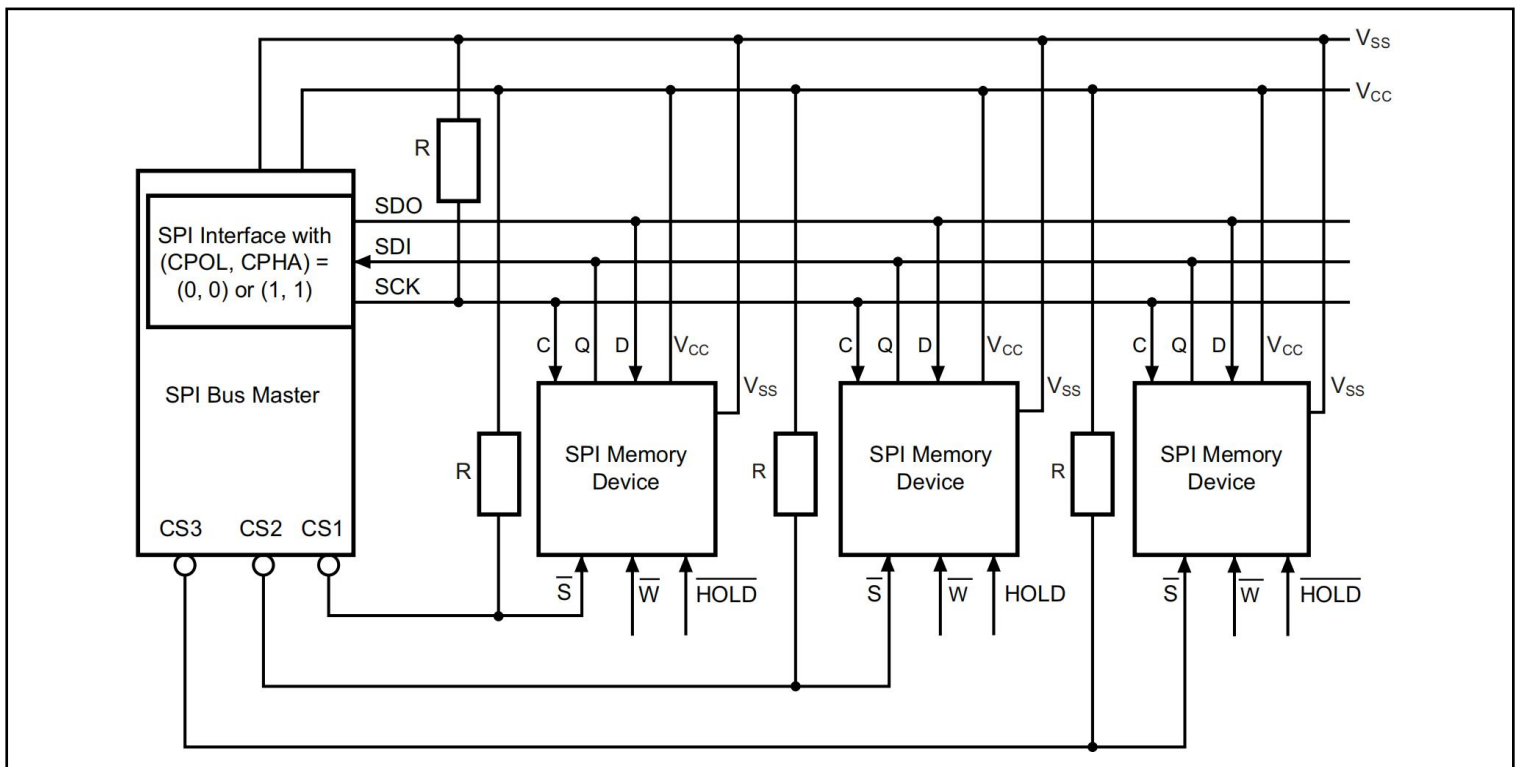

Figure 3. Bus master and memory devices on the SPI bus
1. The Write Protect (W) and Hold (HOLD) signals should be driven, high or low as appropriate. Figure3 shows an example of three memory devices connected to an SPI bus master. Only one memory device is selected at a time, so only one memory device drives the Serial Data Output (Q) line at a time. The other memory devices are high impedance.
The pull-up resistor R (represented in Figure 3) ensures that a device is not selected if the Bus Master leaves the S line in the high impedance state.
When the power supply is turned on, V_{CC} rises continuously from V_{SS} to V_{CC} . During this time, the Chip Select (S) line is not allowed to float but should follow the V_{CC} voltage. It is therefore recommended to connect the S line to V_{CC} via a suitable pull-up resistor (see Figure 3).